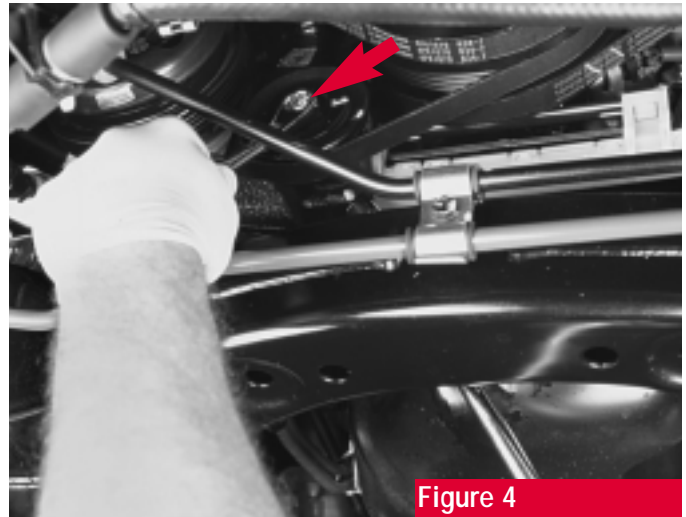

Figure 4
5. Loosen the pinch bolt in the center of the A/C compressor belt pulley and loosen the adjuster bolt enough to loosen the belt (**see arrow, figure 4**).